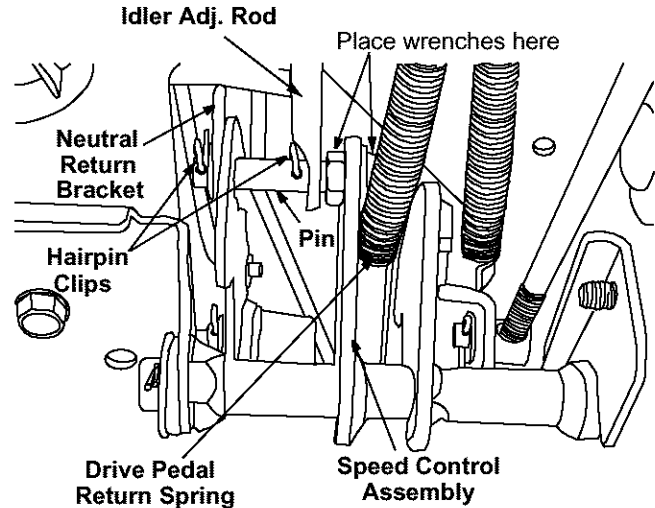

Figure 20
- Remove the drive belt by feeding it from both ends toward the front idler pulley on the double-idler bracket. See Figure 20.
- Locate the speed control assembly on the underside of the steering support bracket. See Figure 20.
not to lose the small flat washers found on the pin). See Figure 20.
- Using two 9/16" wrenches, remove the pin from the speed control assembly. See Figure 20.